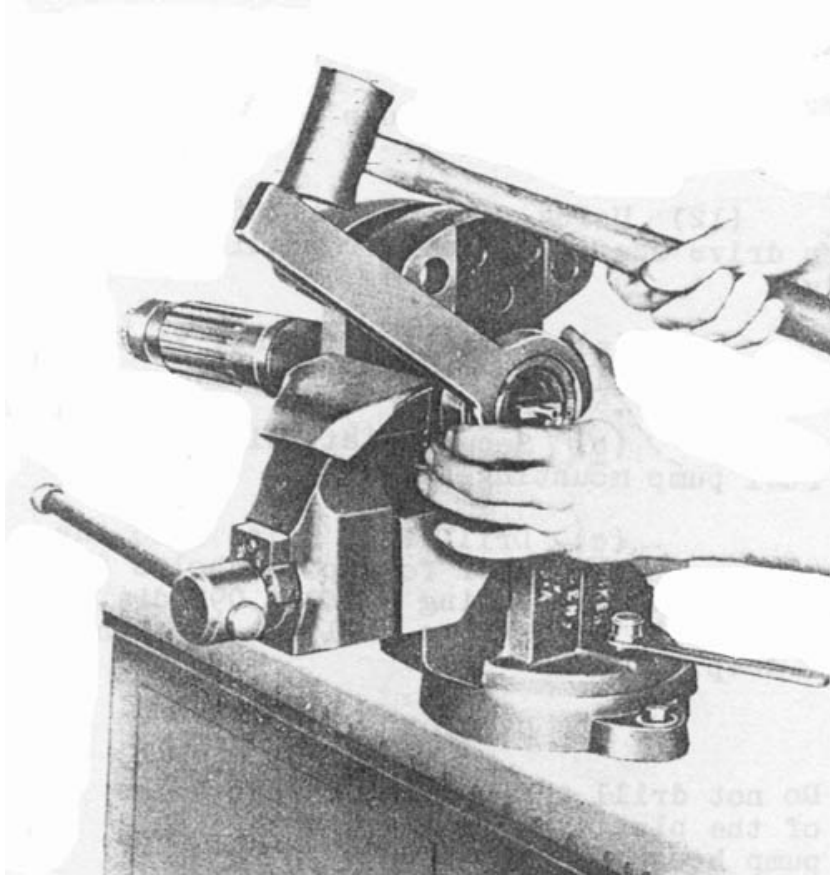
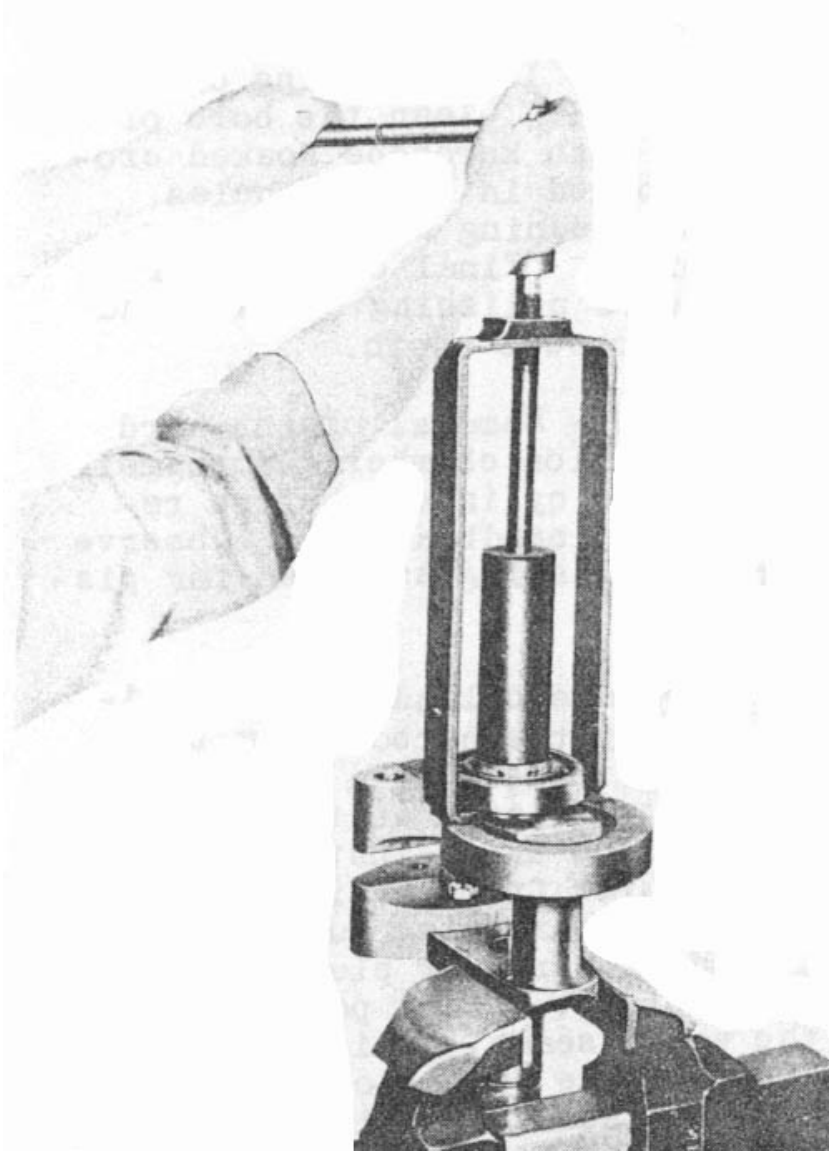

Figure 14 - Method of Clamping Crankshaft In Bench Vise for Removal of Rear Main Bearing Retaining Nut.
Figure 15 - Method of Removing Rear Main Bearing From Crankshaft.
(2) Remove cotter pin and retaining nut from one master rod bolt.
(3) Remove bolt from master rod and replace nut on master rod bolt, to avoid necessity of selecting nuts at assembly.
(4) Continue with other three bolts as above until they are all removed from master rod.
(5) Remove the two master rod sections from the crankshaft.
(6) Remove long 1/8" diameter cotter pin from rear cheek of crankshaft.
(7) Reset crankshaft in vise and clamp rear cheek securely as shown in Figure 14.
(8) Remove rear bearing retaining nut lock ring.
(9) Using wrench No. FA-71-1 and a hammer, remove rear bearing retaining nut as shown in Figure 14.
(10) Reset crankshaft in vise.
(11) Place horseshoe shaped base of tool No. FA-213-A to straddle rear cheek of crankshaft and rest against the inner race of rear main bearing.
(12) Place long spacer No. FA-213-B on the rear end of the crankshaft to act as a bearing seat for puller screw.
(13) Use same procedure to remove rear main bearing as was used with this tool to pull front main bearing. See figure 15.